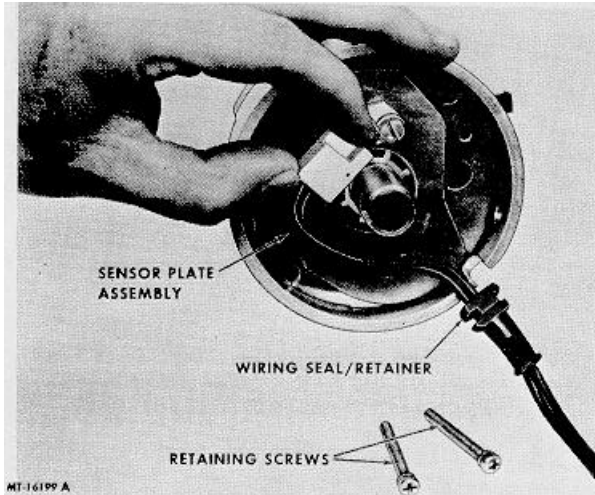

Fig. 17 Removing Sensor Plate Assembly
- Carefully pull sensor wiring seal/retainer from slot in distributor housing. Remove sensor plate mounting screws and lift sensor plate assembly from distributor housing (Fig. 17).